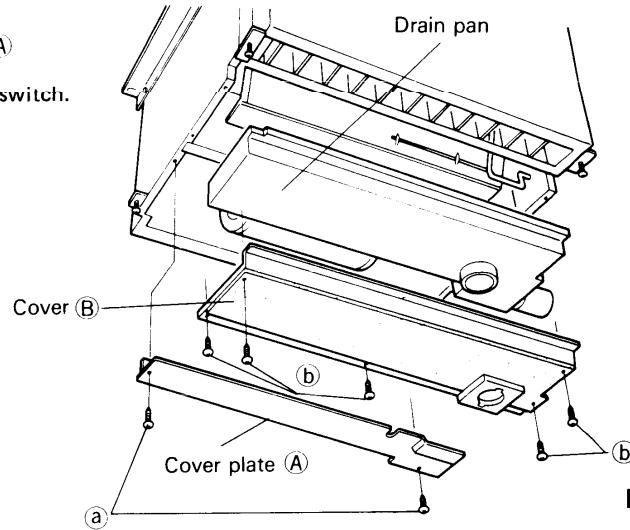

Fig. 8
- (2) Pull the drain pan from the unit. Fig. 8